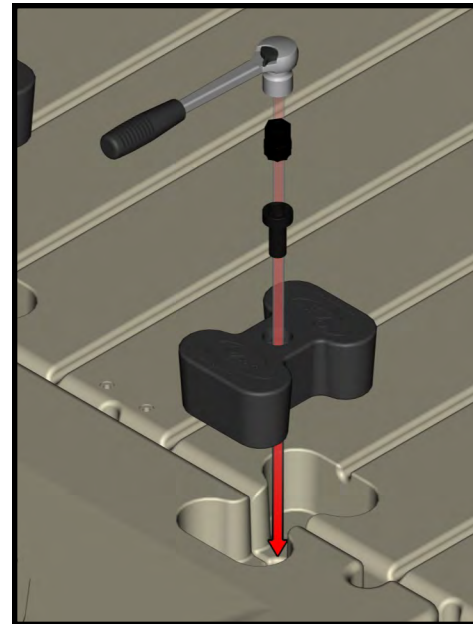

Figure 12.
9. While holding pressure, insert the top coupler into the opposing pocket by aligning the hole in the top coupler over the rod and pushing the coupler into the pocket, (Figure 12).
10. Install the coupler nut (Item 4) onto the bolt and tighten until the top of the bolt is 3/8 -1/2" below the top of the nut (do not torque over 15 ft-lb). Due to the security feature on the coupler nut, the composite coupler installation tool (Item 3) is required for tightening. The coupler installation tool is splined on the end to be inserted into the coupler nut and the other end is a 15/16" bolt. This is inserted into a 15/16" socket (Item 2) with ratchet (Item1) for tightening (Figure 12).